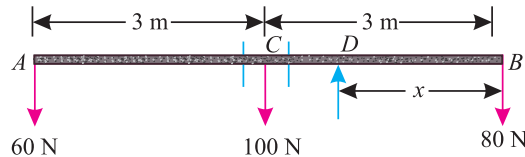

Fig. 4.5.
**Example 4.4.** A uniform beam AB of weight 100 N and 6 m long had two bodies of weights 60 N and 80 N suspended from its two ends as shown in Fig. 4.5.